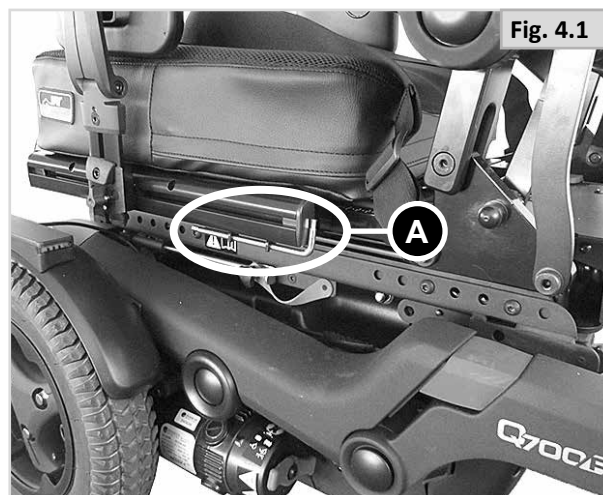

Fig. 4.1
A M5 Allen key is supplied with the seating system. This can be used by a professional for adjusting all of the seating system settings. The M5 Allen key (A) can be found on the frame at the location indicated in Fig. 4.1.